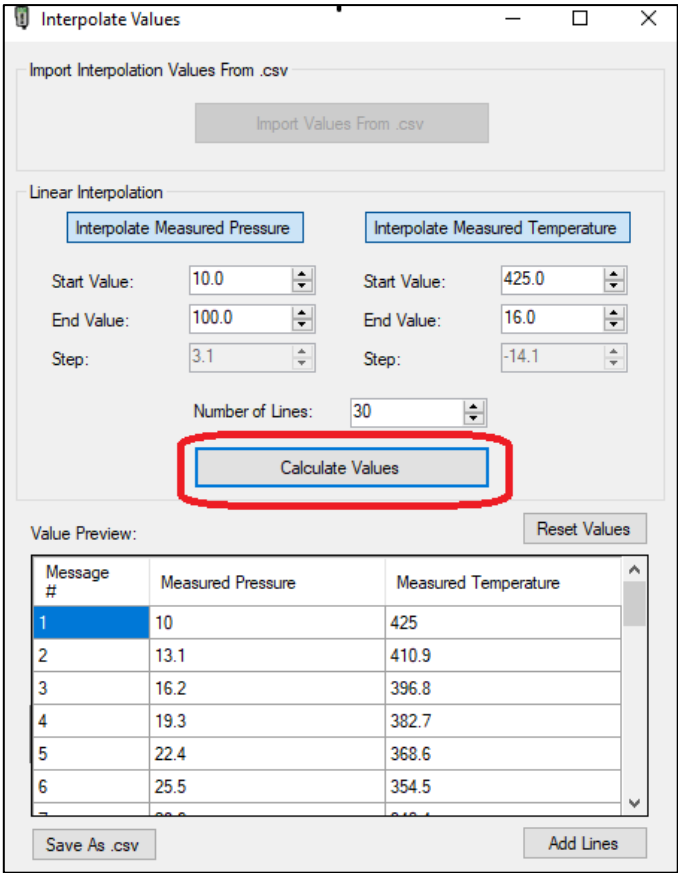

FIGURE 6-44 HHT TEST PATTERN GENERATOR SOFTWARE –MP AND MT INTERPOLATION
STEP 4	Click on the “Calculate Values” button, to generate the set of IRDI messages – see Figure 6-44. The interpolated IRDI messages will now appear in the “Value Preview” area at the bottom of the screen.